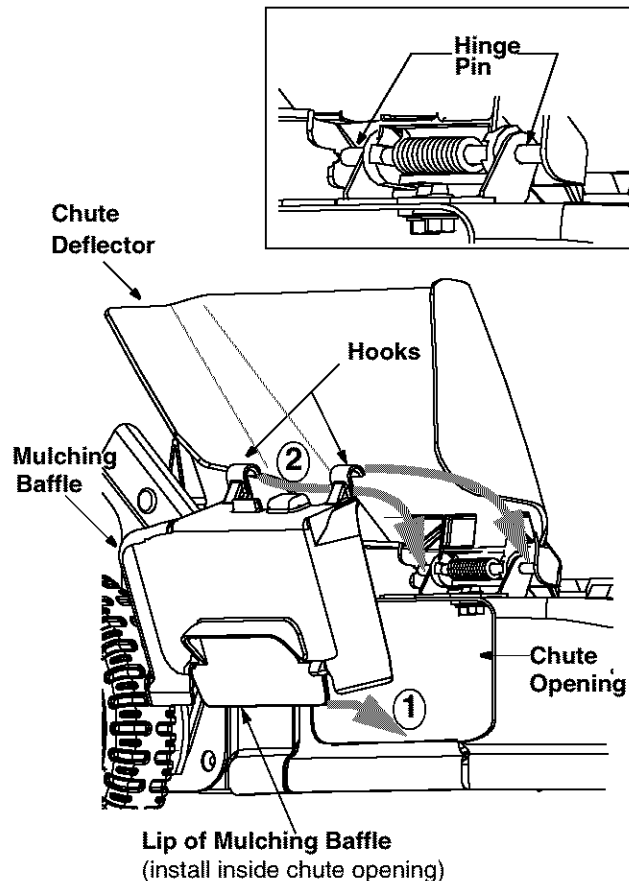

Figure 6
- Insert bottom lip of the mulching baffle **inside** the chute opening. See Figure 6.
- Snap hooks of the mulching baffle over the hinge pin of the chute deflector. See Figure 6. The hooks must snap into place on the hinge pin, locking the mulching baffle firmly onto the mower. For a close-up of the hinge pin location, see inset.